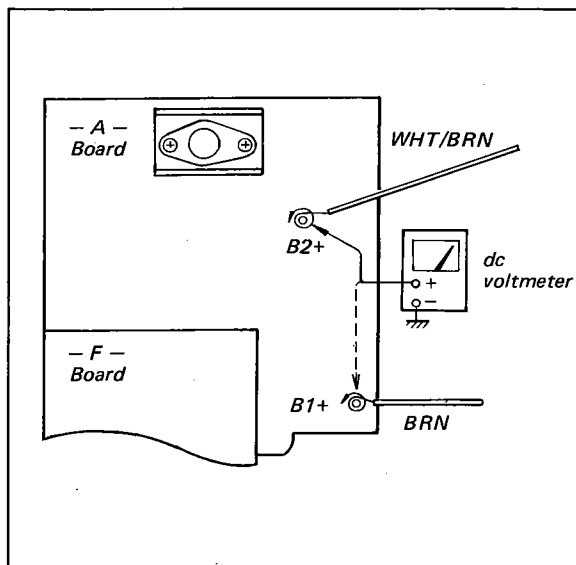

Fig. 3-2. Power supply voltage check
1. Connect the dc voltmeter across B1+ or B2+ and ground on the A board as shown in Fig. 3-2.